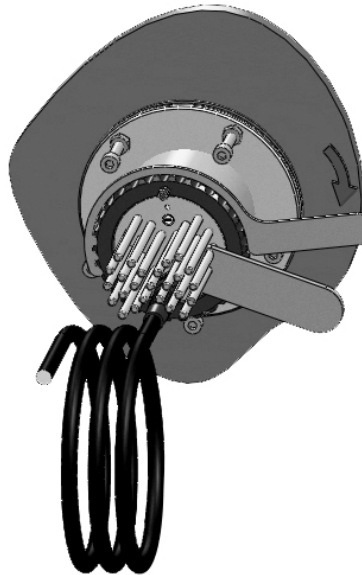

Fig.8.5
4. Slide the locking ring over the back of the insert and into position over the o-ring. Make sure that the o-ring is sitting evenly and does not have a wave or pocket in it. Once you are happy that the o-ring is seated correctly, screw the ring into place clockwise manually. (See Fig.8.5)